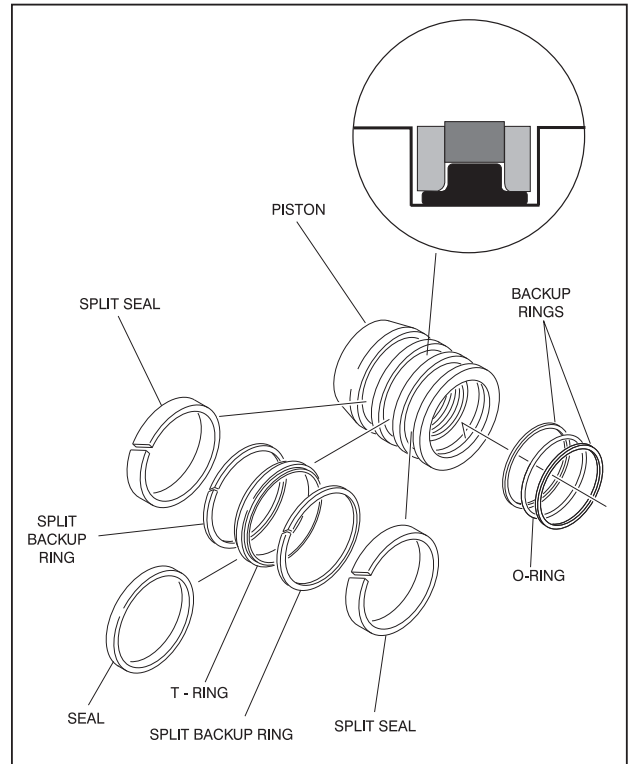

Figure 5-9. Piston Seal Kit Installation
**NOTE:** The backup rings for the solid seal have a radius on one side. This side faces the solid seal. (See magnified insert in Figure 5-9.) The split of seals and
16. Place new guide locks and seals in the applicable outside diameter grooves of the cylinder piston. (See Figure 5-9., Piston Seal Kit Installation)